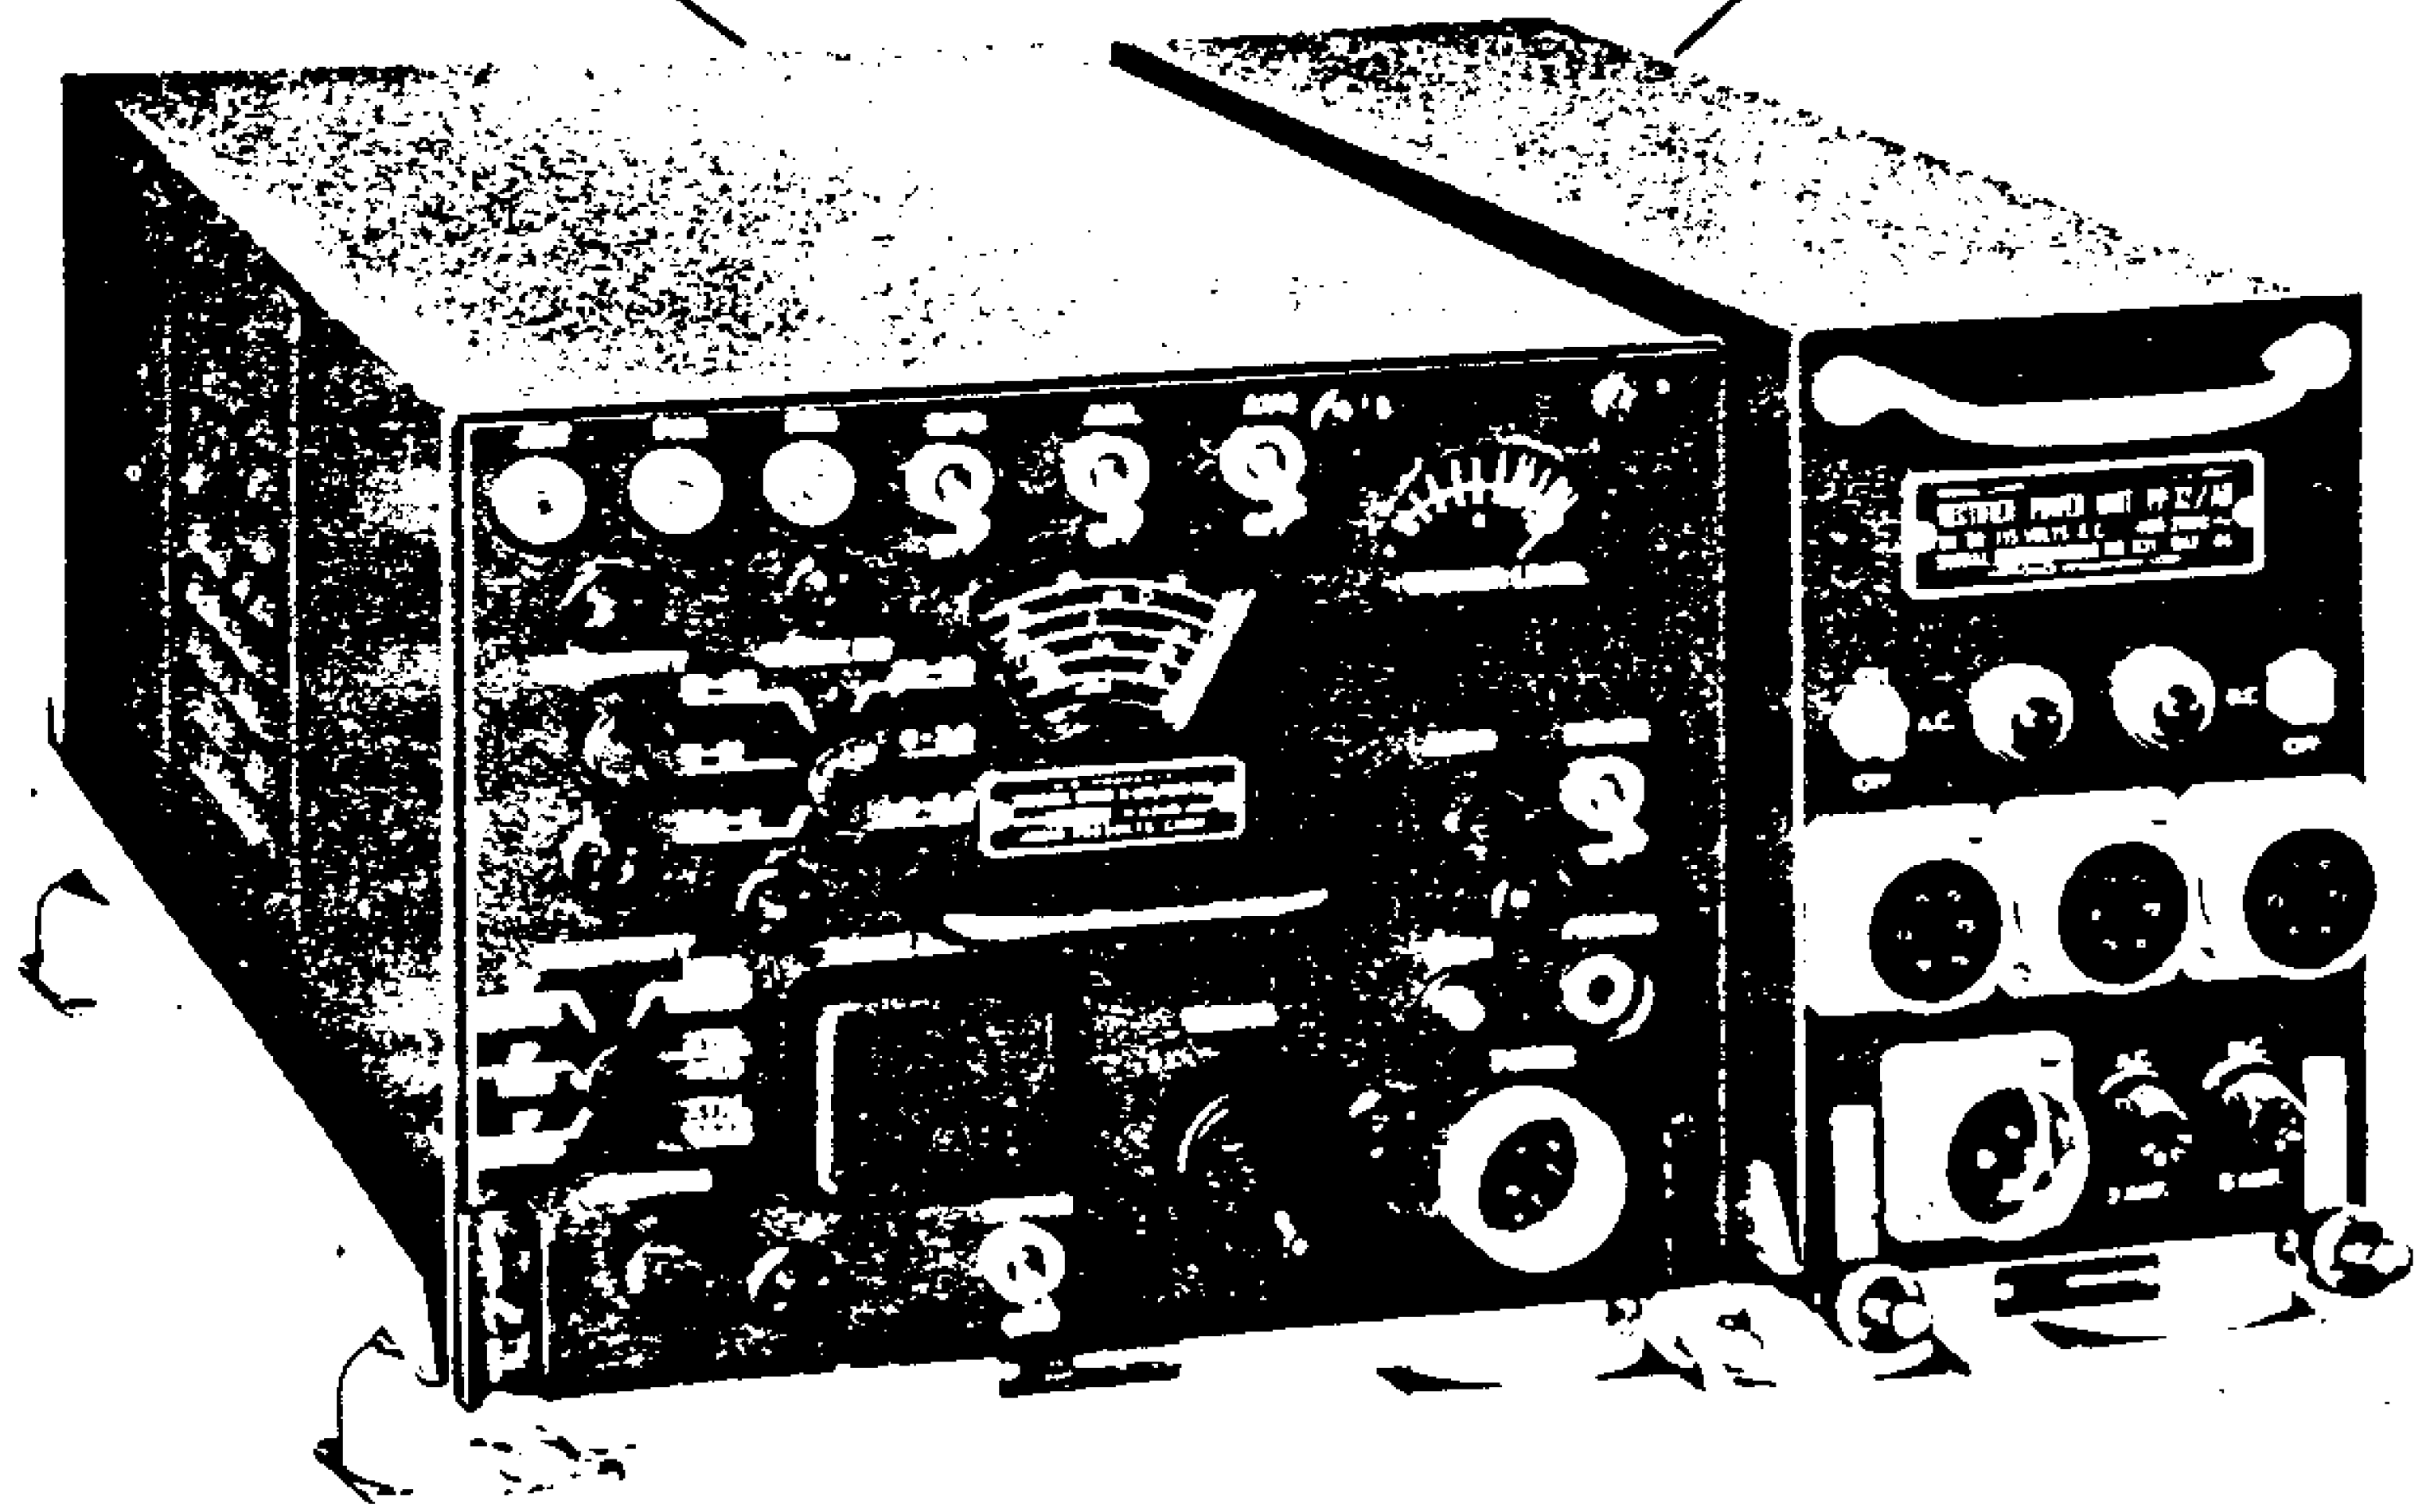

Figure 1-1. Radio Receiving Sets AN/ARR-7 (Upper) and AN/ARR-7AX (Lower)
### 1-1. GENERAL. (See figure 1-1)
**1-6. DESCRIPTION OF PARTS.** (See figure 1-1).